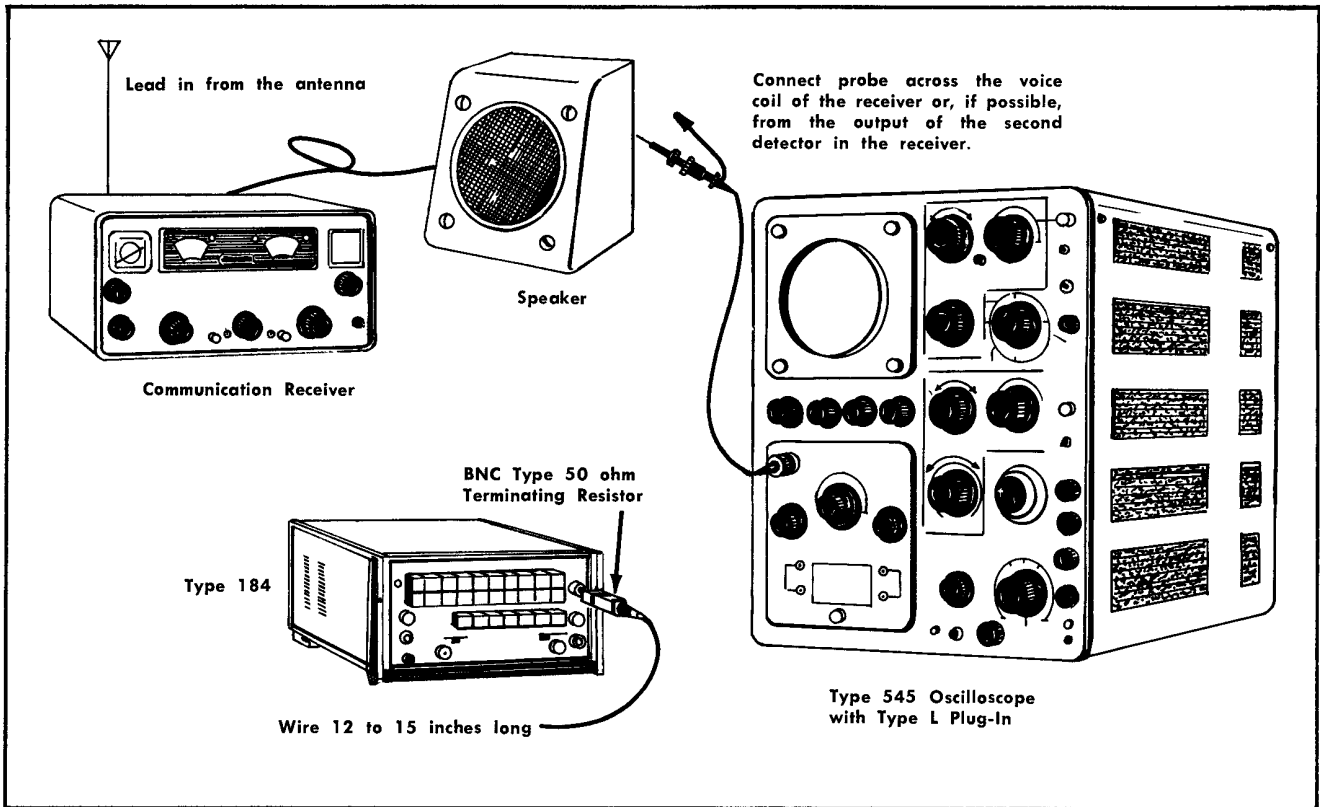

Fig. 6-10b. Suggested setup for adjusting crystal oscillator frequency to National Bureau of Standards. Step 5.
a. Test equipment setup is shown in Fig. 6-10b. There is no direct connection between the Type 184 and either the receiver or the test oscilloscope.